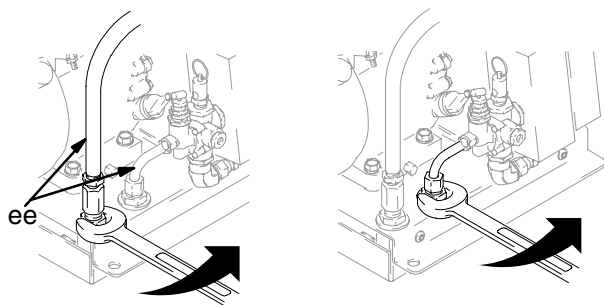

Fig. 17
2. Remove Compressor Power Pack (Z) , page 7.
3. Remove 2 air lines (ee) Fig 17.
4. Remove 2 bulk head nuts. Fig. 17.
3. Align Compressor Power Pack (Z) with frame bottom. Replace 4 screws.
5. Attach air lines (ee) Fig. 17.
6. Install Compressor Power Pack (Z) on cart, page 7.